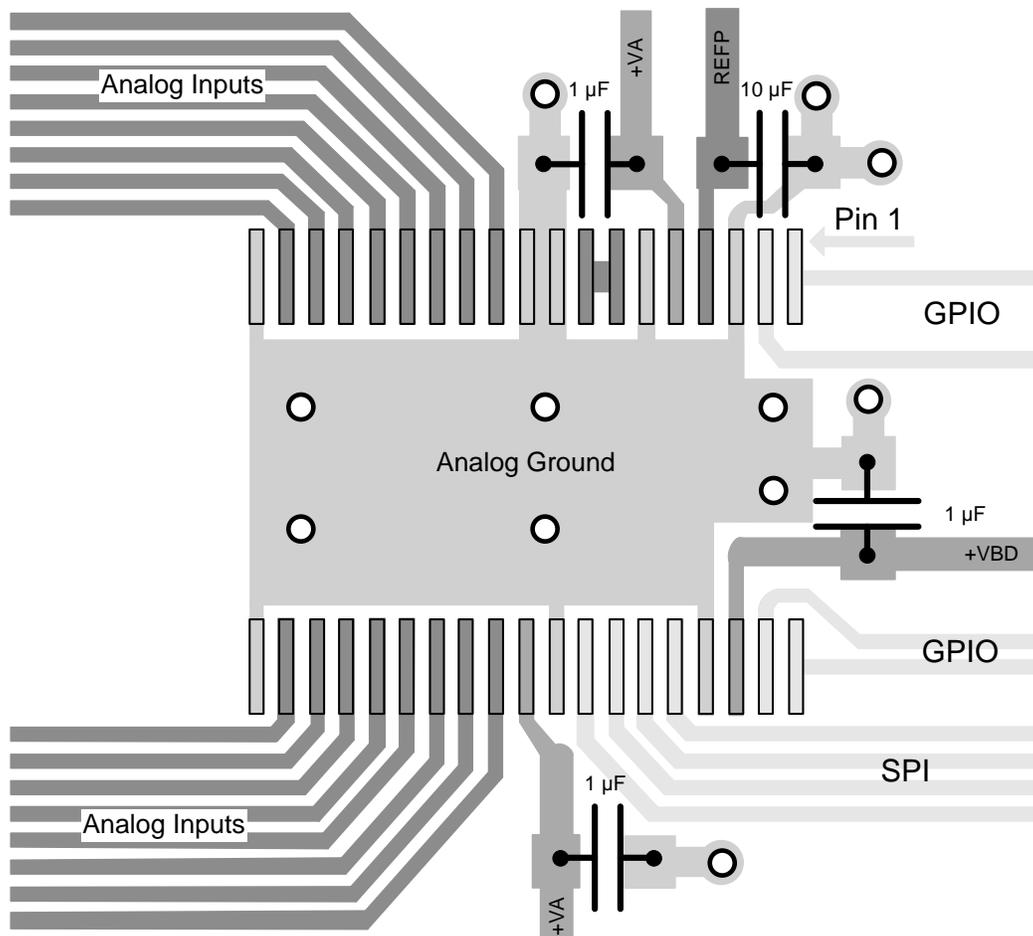
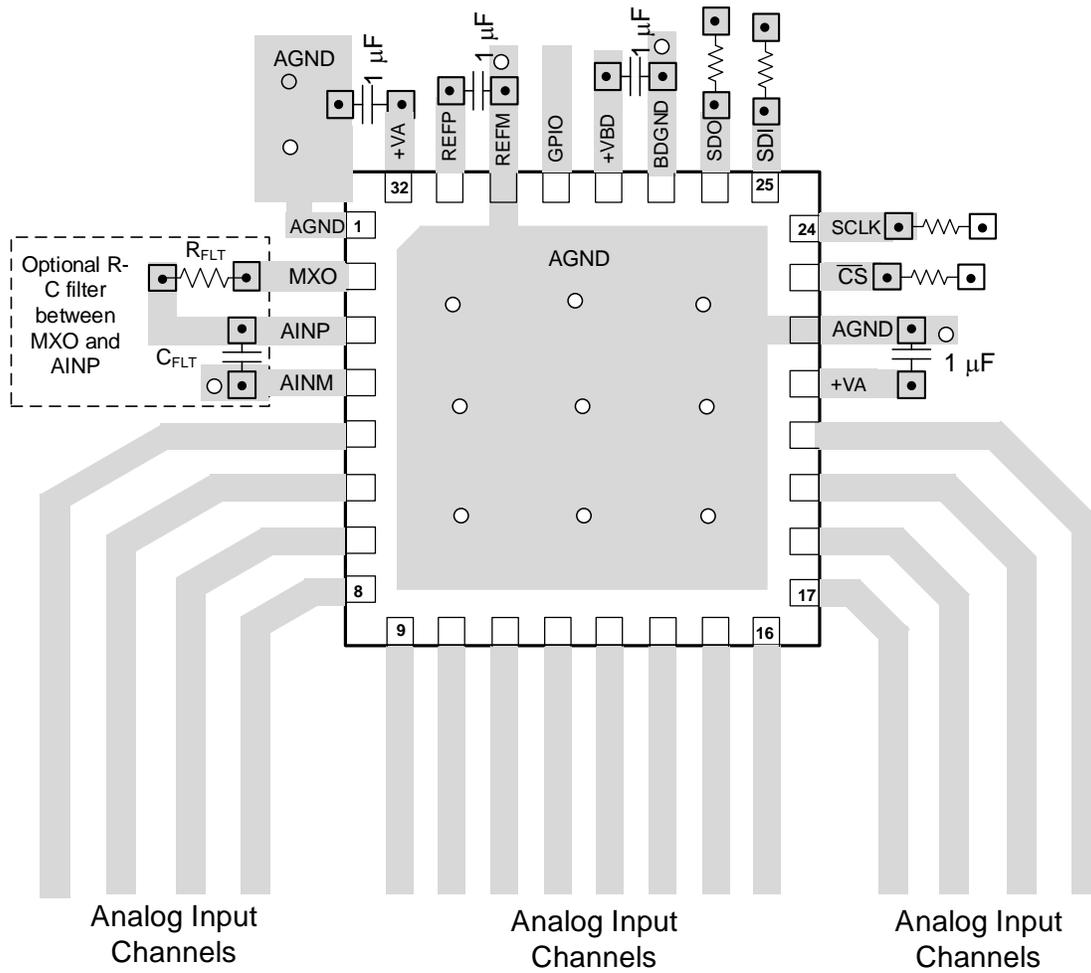

Figure 69. Recommended Layout for the TSSOP Packaged Device
Figure 70. Recommended Layout for the VQFN Packaged Device
- The power sources must be clean and properly decoupled by placing a capacitor close to each of the three supply pins, as shown in Figure 69 and Figure 70. To minimize ground inductance, ensure that each capacitor ground pin is connected to a grounding via by a very short and thick trace.
- The REFP pin requires a 10- μF ceramic capacitor to meet performance specifications. Place the capacitor directly next to the device. This capacitor ground pin must be routed to the REFM pin by a very short trace, as shown in Figure 69 and Figure 70.
The full-power bandwidth of the converter makes the ADC sensitive to high frequencies in digital lines. Organize components in the PCB by keeping digital lines apart from the analog signal paths. This design configuration is critical to minimize crosstalk. For example, in Figure 69, input drivers are expected to be on the left of the converter and the microcontroller on the right.